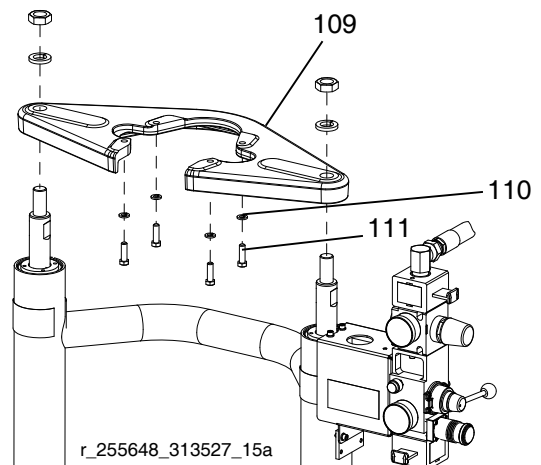

**FIG. 25: NXT 200-1800 with 55 Gallon Platen**
- b. For *NXT 200-1800 with 55 gallon platen (D200 3 in. and D200s 6.5 in. supply units)*: Remove screws (111) and washers (110) securing motor to mounting plate. See FIG. 25.
2. For *NXT200-1800*: Attach motor to mounting bracket with screws (111) and washers (110). See FIG. 25 on page 27.
- b. Connect air hose to motor. If using a remote DataTrak, connect electrical connections to the air motor. See FIG. 25 on page 27.
3. Connect air hose to motor. If using a remote DataTrak, connect electrical connections to the air motor. See FIG. 25 on page 27.